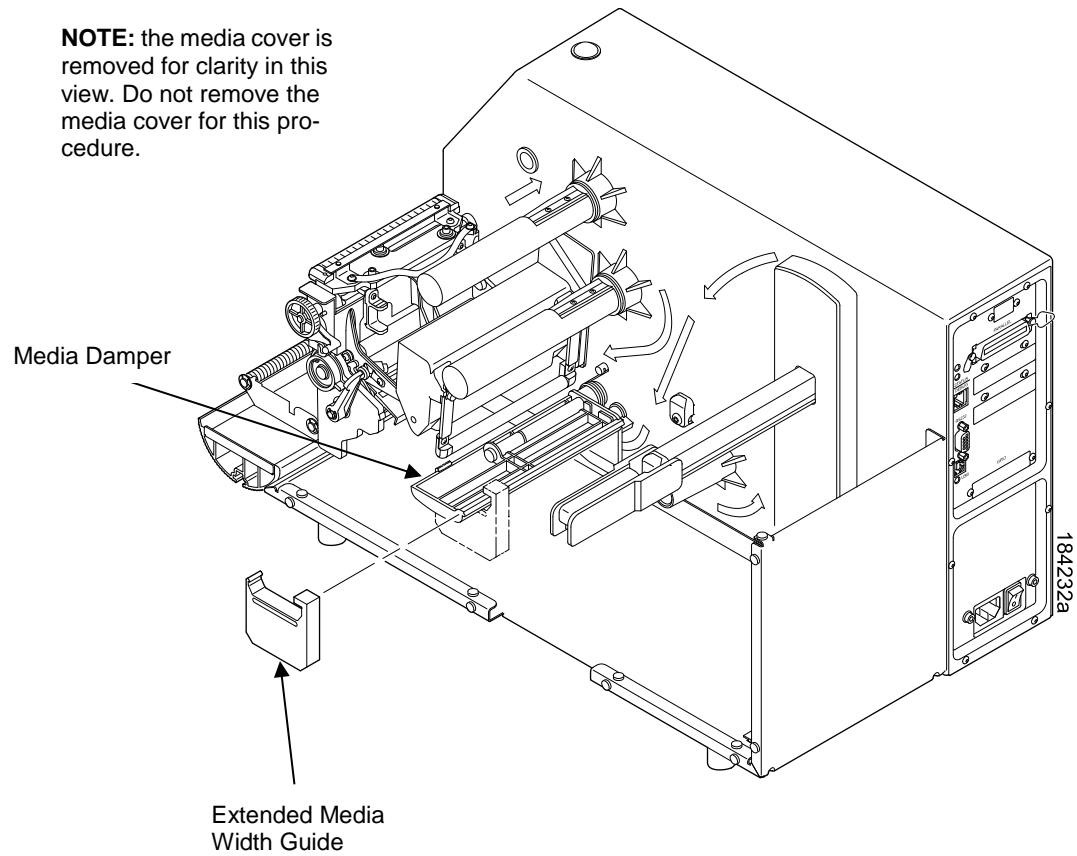

Figure 11. Replacing the Media Width Guide
18. Replace the standard (blue) media width guide on the media damper with the extended media width guide (Figure 11.)